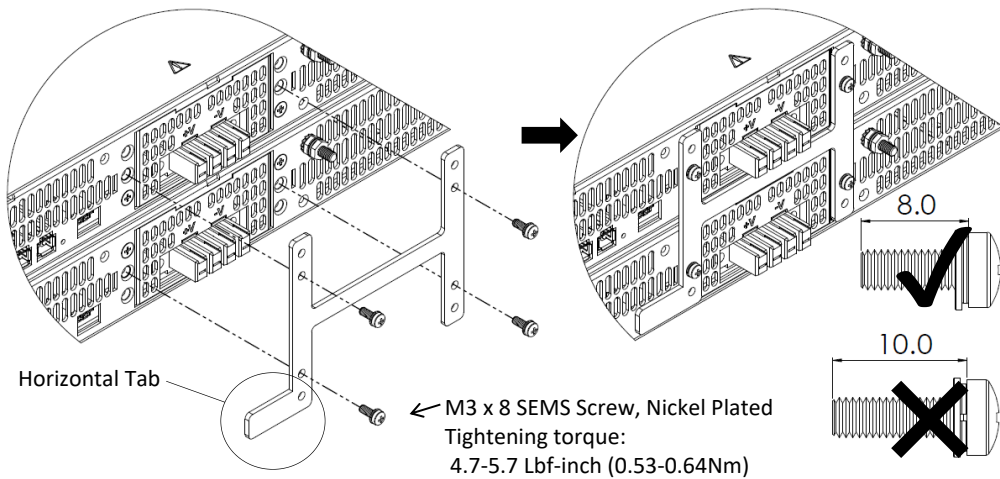

Figure 25: Fixing bracket installation
- Attach fixing bracket to power supply's back side using four SEMS screws, eight millimeter screw length, as illustrated in Figure 25. Make sure the horizontal tab is located as illustrated in Figure 25.